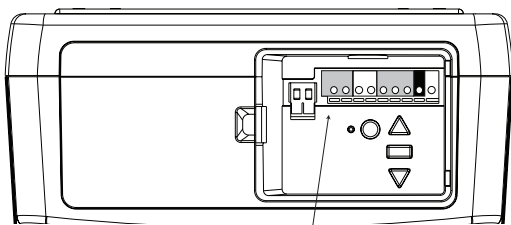

figure 5
- Run wires from both sensors to the opener and connect the two white only wires to the white terminal (2) and the black/white wires to the grey terminal (3) on your opener (refer figure 5).